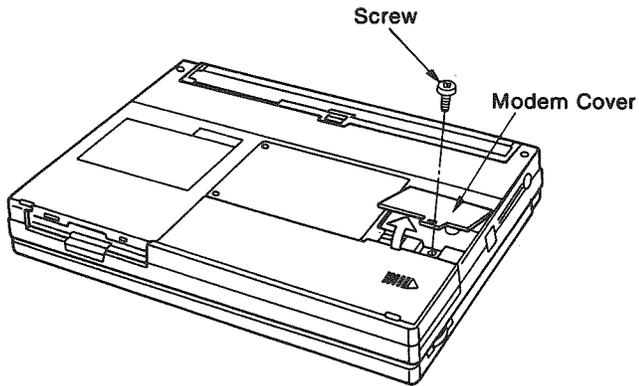

Figure 4
3. Remove the screw on the modem cover, carefully raise the modem cover and remove it. (Refer to Figure 4.)